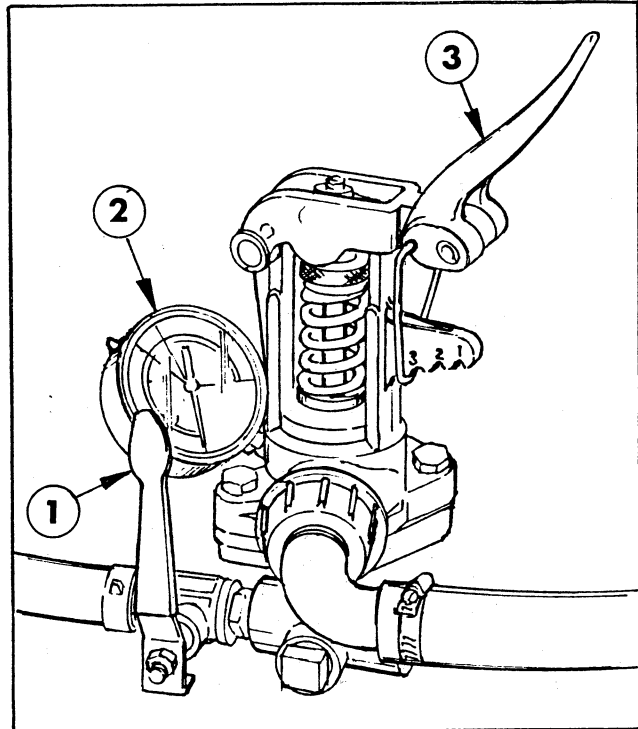

Figure 5
- a. **High Pressure Valve:** Opens and closes to control the supply of spray solution to the Hand Spray Gun. See Fig. 5.